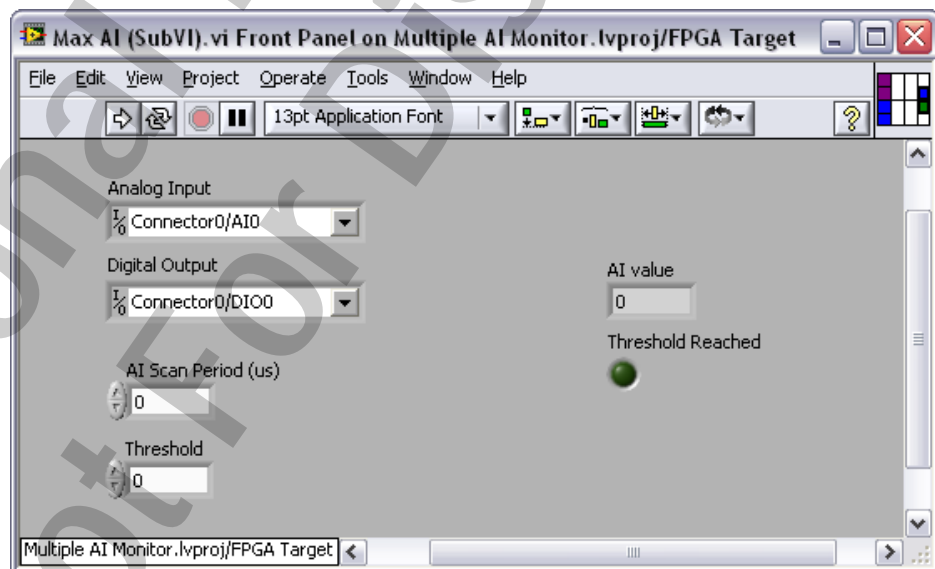

Figure 10-2. Max AI (SubVI) Front Panel with Connector Pane
6. Arrange the front panel as shown in Figure 10-2.
8. Edit the VI Connector Pane to correspond to the arrangement of the Front Panel objects. Inputs are on the left, outputs are on the right. Refer to the Connector Pane in the upper right corner of Figure 10-2.